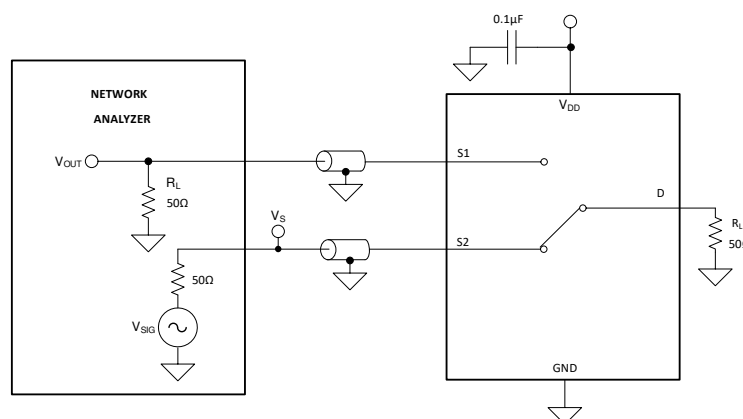

Figure 7-8. Crosstalk Measurement Setup
Crosstalk is defined as the ratio of the signal at the drain pin (D) of a different channel, when a signal is applied at the source pin (Sx) of an on-channel. Figure 7-8 shows the setup used to measure, and the equation used to calculate crosstalk.